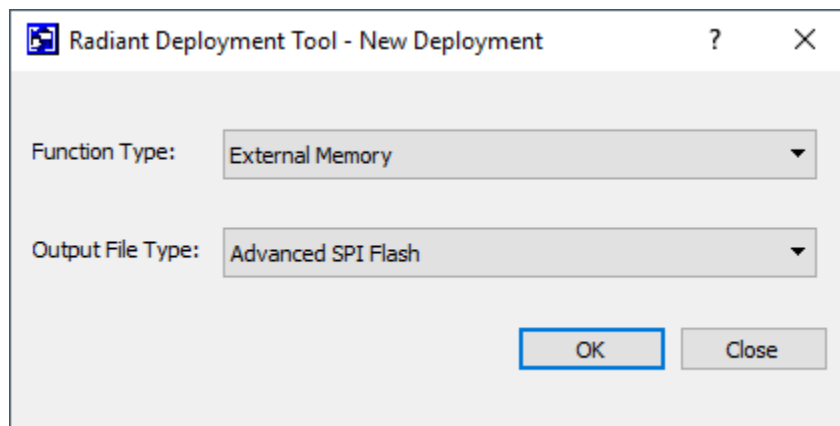

Figure 6.11. Creating New Deployment for Multi-Boot
3. In the Radiant Deployment Tool window, select **External Memory** as the **Function Type** and select **Advanced SPI Flash** as the **Output File Type** (Figure 6.11).